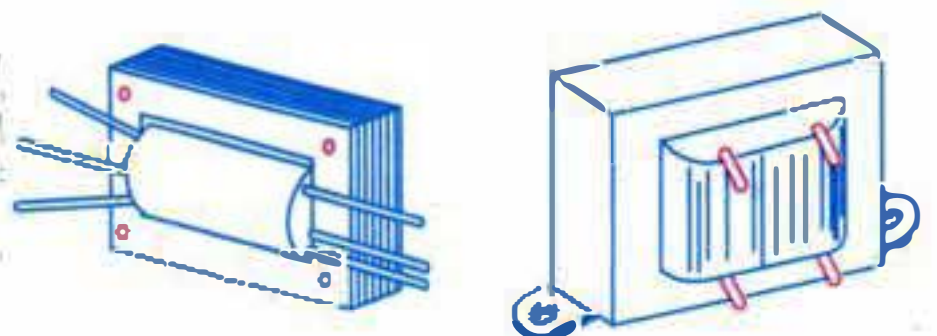

Fig. 7.17
They are designed to operate over the audio frequency (AF) range of 20 Hz to 20 kHz, have laminated core and are usually smaller than power transformers. They are primarily used for impedance matching and, in some cases, for voltage amplification. Two such typical transformers are shown in Fig. 7.17. Such transformers are usually designated according to their applications as input or output transformer, microphone transformer, modulation transformer and interstage transformer etc. Usually, they are rated by their primary and secondary impedances and current-carrying capability.